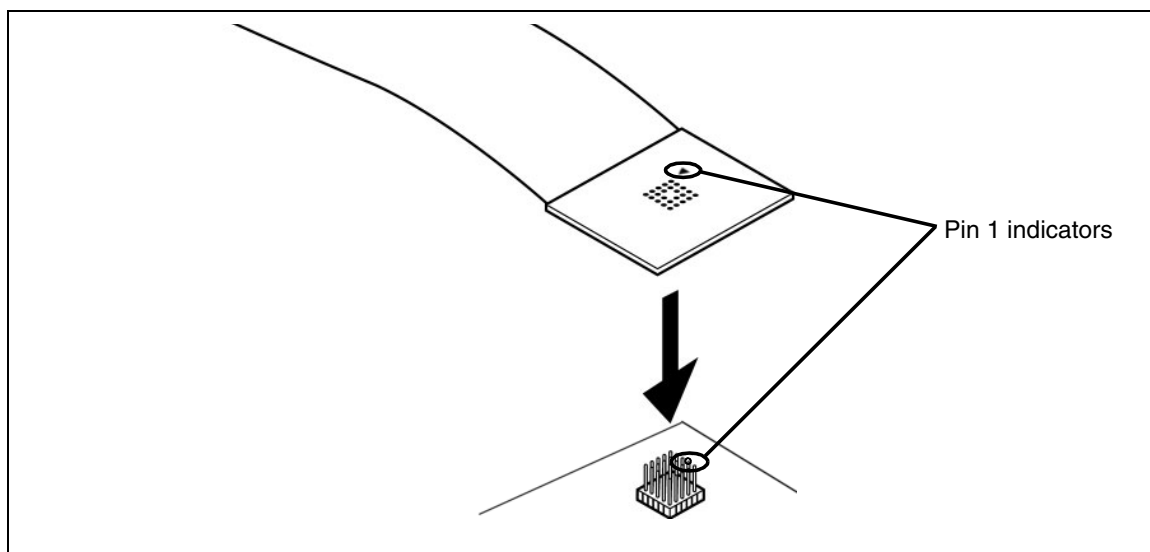

Figure 14: TQFP32 connector
- 4 Solder the TQFP32 connector (Ironwood SK-UGA06/32A-01) onto your application board as shown in Figure 14